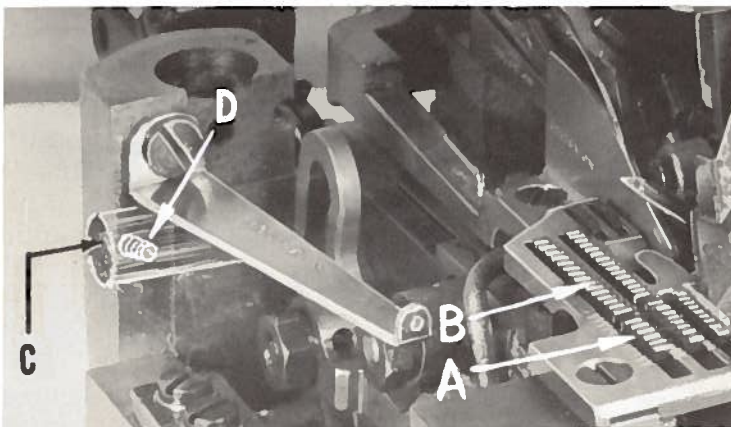

Fig. 12
Assemble and set the differential feed dog (A, Fig. 12) and main feed dog (B) so the top surfaces of the teeth all lie in the same plane. This can be checked by sighting across teeth with a straight edge. Feed dogs should now be leveled with throat plate surface by rotating feed tilting adjusting pin (C). This pin raises or lowers the back end of both feed bars at the same time.